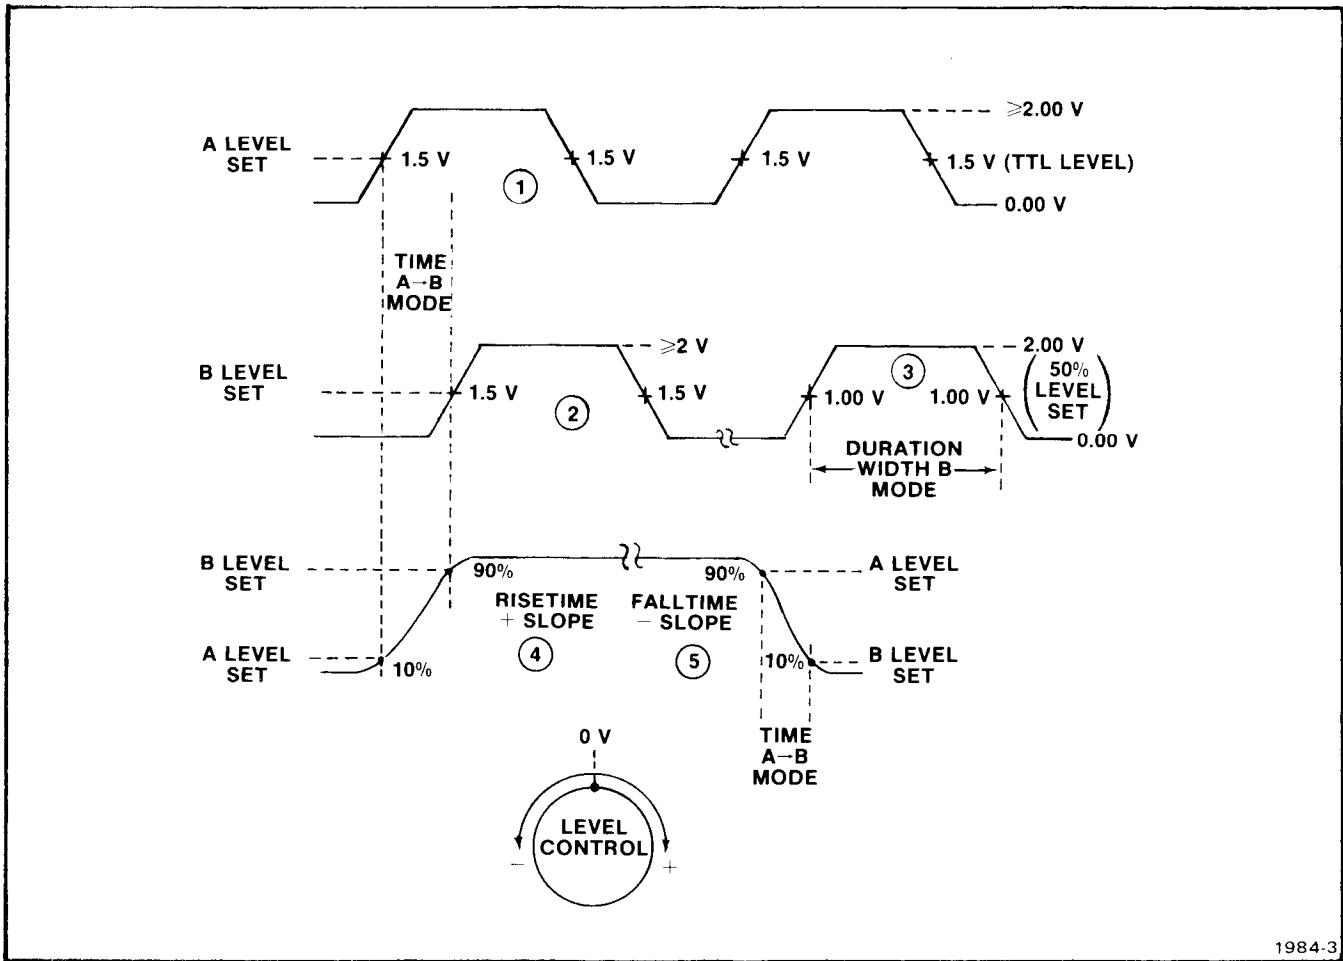

Fig. 2-5. Typical CH A and CH B Level Out voltage settings for various time interval measurements.
**Triggering.** The voltage levels necessary to establish the triggering points on any selected slope are monitored and set with digital voltmeter readings at the CH A/CH B TRIG LEVEL pin jacks on the front panel or rear interface connections. Fig. 2-5 illustrates typical TRIG LEVEL voltage settings for various time interval measurements. When making these measurements, each channel must be dc coupled and coaxial cables must be properly terminated in order to maintain signal fidelity.
**WIDTH B Mode.** In order to measure pulse duration (Fig. 2-5, waveform 3), the 50% level must be determined. Set the FUNCTION switch to WIDTH B and the CH B LEVEL control fully counterclockwise. Apply the input signal to the CH B input connector. The GATE indicator must be off.